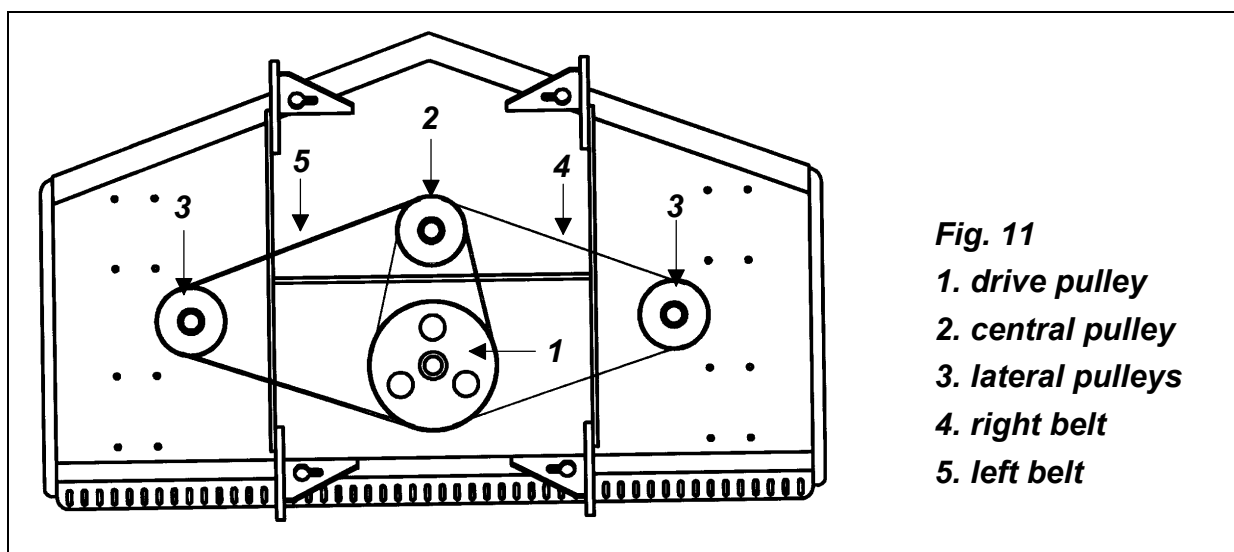

Fig. 11
8. Replace new belts (**see fig. 11**). Loop the first belt over the left spindle and around the lower groove of the centre spindle pulley and the lower groove of the gearbox drive pulley. The second belt connects the upper grooves of the centre spindle pulley and the gearbox drive pulley with the right spindle pulley.